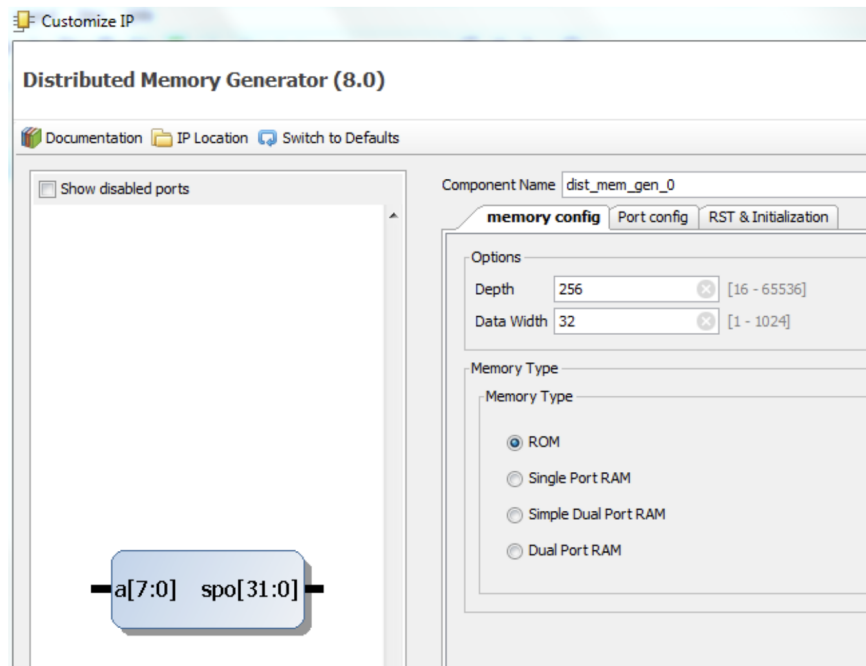

Figure 5: Customize IP: Distributed Memory Generator
- Now choose **Distributed Memory Generator**, to create a ROM / RAM as per your design requirement. The Distributed Memory Generator opens a window with three tabs. In the **memory config tab**, specify memory size and type. The Fig. 5 shown below is for a ROM with 256 words, each of size 32 bits. You should change these parameters based on the input vector size that is ROM with 1024 words with size of 4 bits.